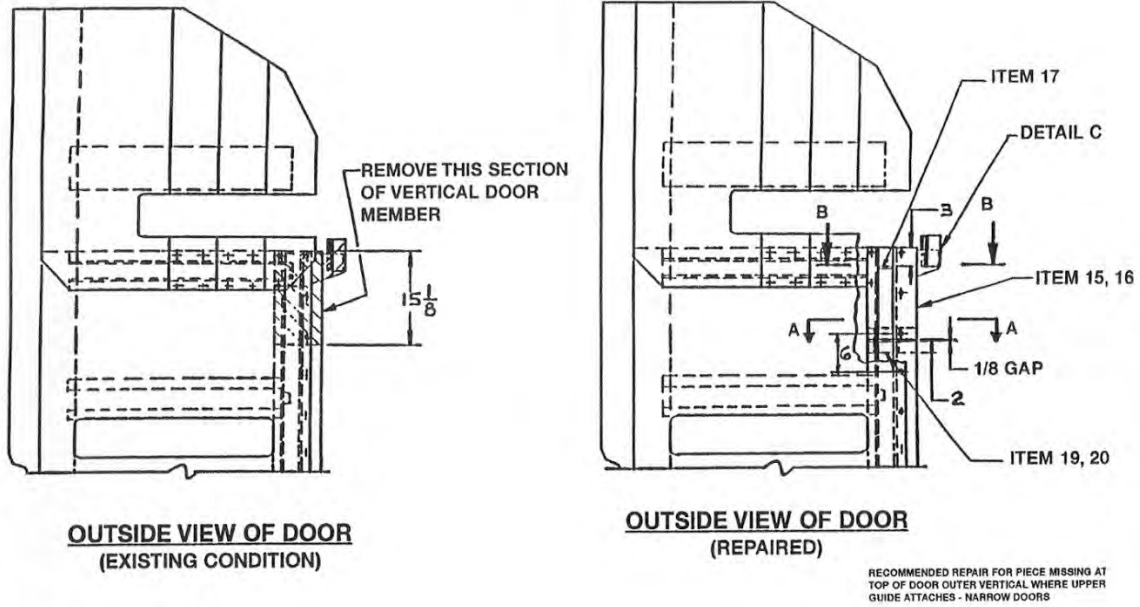

Figure 20
2. Cut off the top 151/8" of the outer vertical door member. (Refer to Figure 20, Outside View of Door – Existing Condition.)
3. Tack weld a new piece (Figure 20, Item 15 or 16) after adding new gusset (Item 17), leaving 1/8" gap between the two pieces for a 100% penetration weld. (Hold the hole-spacing on the outer row of Huck holes to 6" on center).